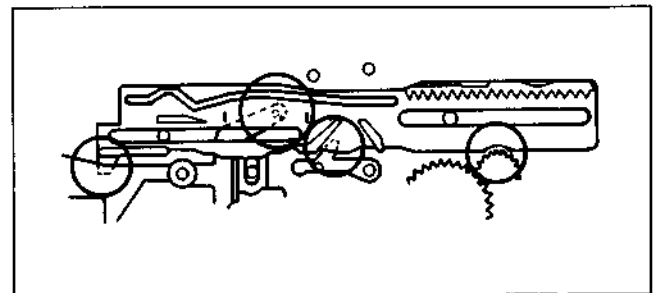
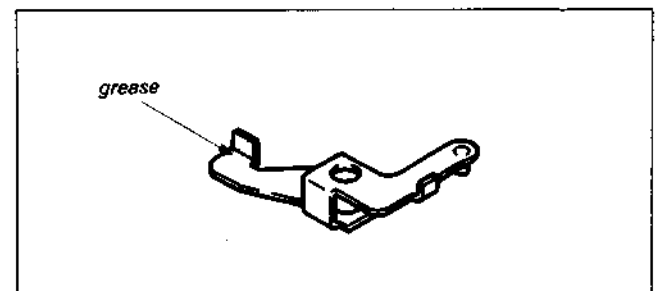

Fig. 7-42.
Fig. 7-43.
- 2) Push mode arm ● in the direction of arrow, and mount the M slider ●, noticing the positioning of the other parts in Fig. 7-42. and mount the stopper washer ●.
- 3) Mount hard brake (S) ● and spring ●.
- 4) Apply grease. (See Fig. 7-43.)